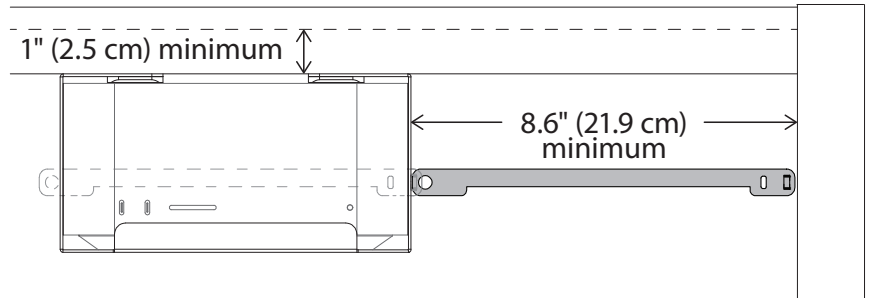

Figure 1
WARNING: Due to the Mac Studio computer's weight, plus the weight of connected cables, it is critical you attach the MacCuff Studio bracket to a good solid surface. Do not install the bracket on a surface less than 1" (2.5 cm) thick (Figure 1).
1. Choose a mounting location for the MacCuff Studio bracket. Be sure to select a position with at least 8.6 inches (21.9 cm) of clearance on the right side of the bracket (Figure 1).